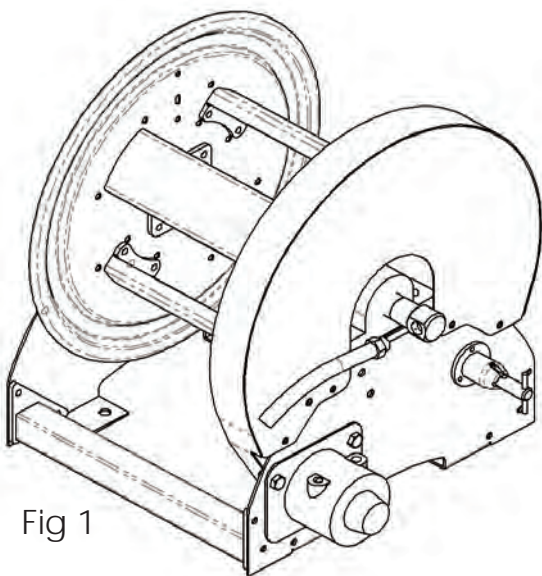

Fig 1
## Connection of the Inlet and Main Hose/s - Fig 1 & Fig 2
- A **flexible** connection between the reel and the source of supply (Fig 1) is required to prevent possible misalignment and binding. Non flexible connections will void the warranty. The pressure rating of the inlet hose must be equal to or greater than the rating of the reel.